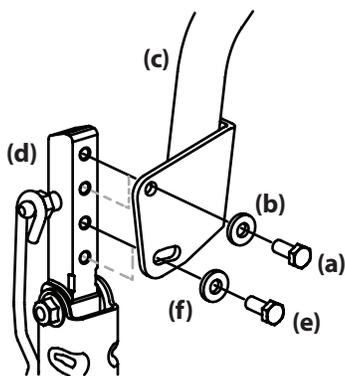

Figure 4-4
2. While supporting the drive control lever to keep it from falling, remove the hex screw (e) and flat washer (f) from the bottom of the drive control lever (c) and lower arm (d). Refer to Figure 4-4.
1. If not already loose, loosen the hex screw and rotate the control lever either forward or rearward to the desired position. See Figure 4-4.